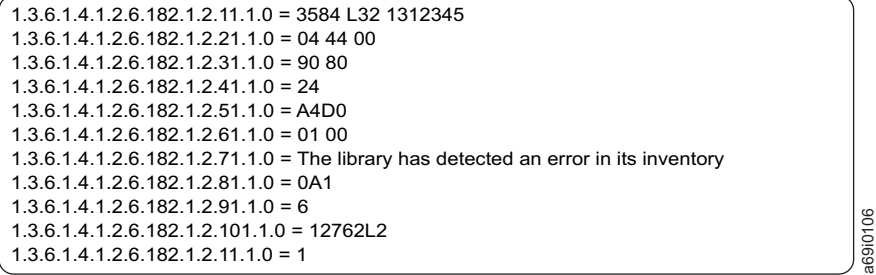

Figure 61. Sample SNMP trap. OIDs are on the left of the equal sign; OID fields are on the right. Values in the fields provide information about the problem.
1. Observe the trap when it is received by systems management software and identify its components. Figure 61 on page 306 shows a sample SNMP trap. The trap consists of object identifiers (OIDs) on the left of the equal (=) sign and OID fields on the right.
Table 36. Fields in an SNMP trap. The fields are listed in the order in which they occur in an actual SNMP trap. Use the sample values to interpret the meaning of the example trap in Figure 61 on page 306.
*Table 36. Fields in an SNMP trap (continued).* The fields are listed in the order in which they occur in an actual SNMP trap. Use the sample values to interpret the meaning of the example trap in Figure 61 on page 306.